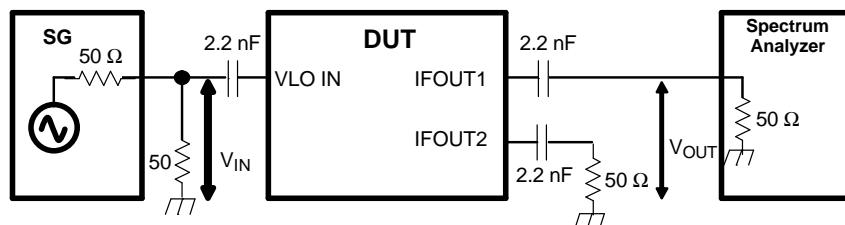

Figure 18. VHF-L Output Voltage Measurement Circuit
(5) IF = 36 MHz, $V_{IN} = 107$ $\text{dB}\mu\text{V}$ (see Figure 18).